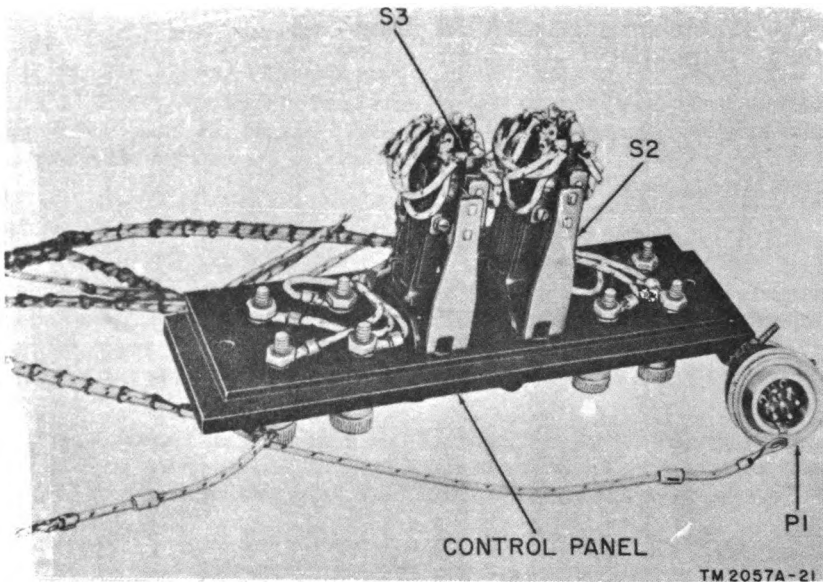

Figure 23. Test Set TS-27B/TSM, bottom view of control panel.
- (2) Remove two flathead screws from upper and lower end of control panel, and lift panel (fig. 23) from case.
f. LEVER SWITCHES S2 AND S3. Remove the control panel, and turn it face down on a suitable working surface (fig. 23). Disconnect the leads from the terminals. Remove four mounting screws from the defective lever switch, and remove the lever switch from the control panel. Mount the new lever switch in place by reversing the removal procedures.
g. BINDING POSTS. Remove control panel, and turn it face down on a suitable working surface (fig. 23). Disconnect wire from defective binding post. Remove mounting nut from under side of panel, and remove the binding post from the panel. Mount new binding post in place by reversing removal procedures.